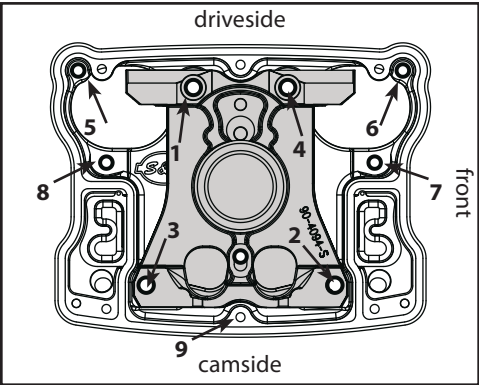

Figure 1
**Figures 1 or 2.** Refer to line drawing on page 3 for correct placement of screws.
- 14. Install the remaining rocker box screws and tighten according to specifications in **Figures 1 or 2**. Note that screw diameter and torque requirements are different for 1984-99 and 1999-later engines.